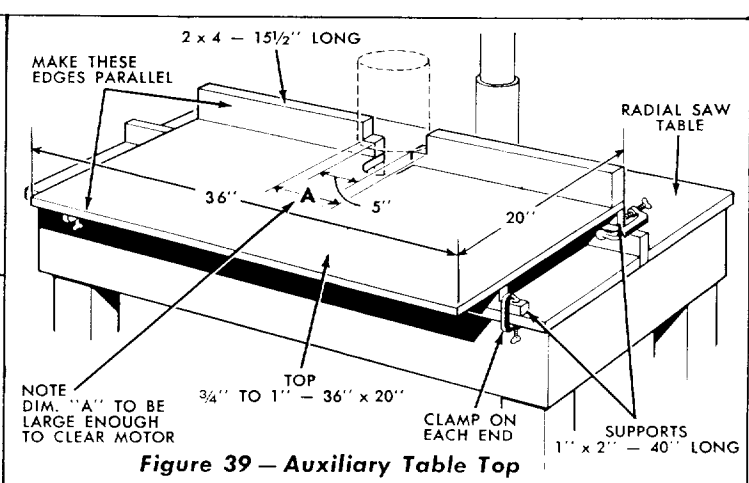

Figure 39 — Auxiliary Table Top
7. An auxiliary table top for molding or shaping can be constructed similar to Figure 39. Note the shape of the back guide fence against which your work piece is moved. A cut-out 5" wide should be made at the center of this guide fence to give adequate clearance for the molding head and cutters. Also a wider clearance marked "A" should be made to allow for the radial saw motor. Be sure the front edge of the auxiliary table is parallel with the surface of the guide fence. With the auxiliary table top thus completed it is ready for use by merely clamping it into position with "C" clamps.